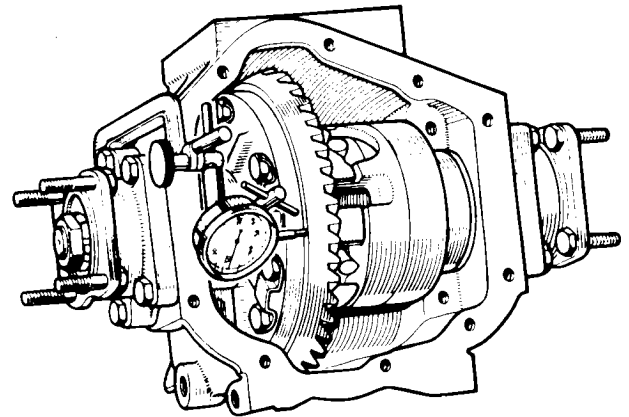

Fig. 36. Checking the drive gear run-out
- (3) Mount a dial indicator on the gear carrier housing with the button against the back face (as shown in Fig. 36). Turn the pinion by hand and check the run out on the back face which should not exceed .005" (.13 mm.). If there is excessive run out strip the assembly and rectify by cleaning the surfaces locating the drive gear. Any burrs on these surfaces should be removed.
- (4) Install the drive shafts without any shims between the drive shaft bearing housing and the differen-